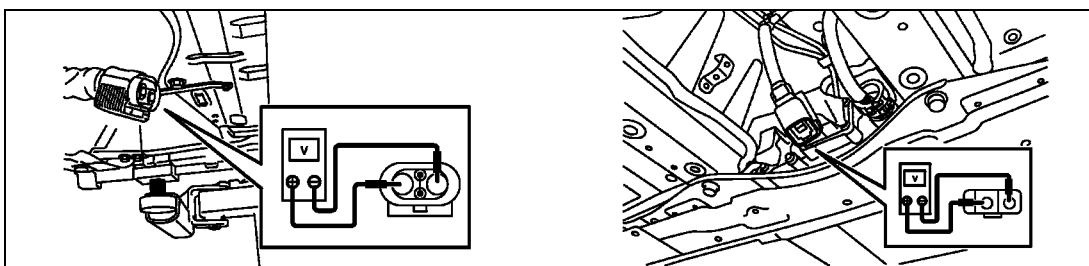

Figure 6
5. Measure voltage between high voltage harness connector terminals and PTC heater harness connector terminals (Figure 6).